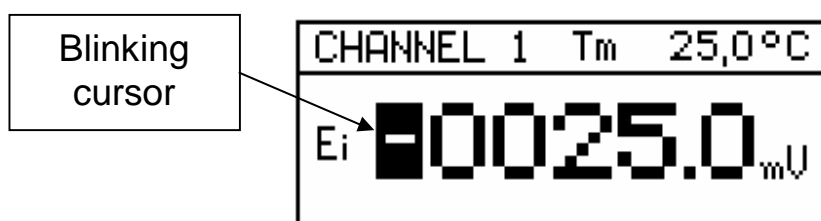

Fig. 4
b) changing (editing) symbols or numerical values selected with the blinking cursor (Fig. 4).